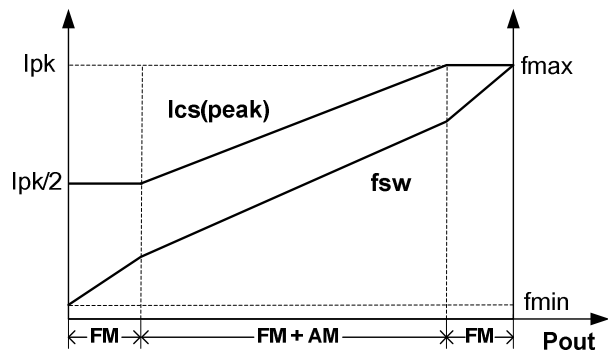

Fig.4
To meet the tight requirement of averaged system efficiency and no load power consumption, a hybrid of frequency modulation (FM) and amplitude modulation (AM) is adopted in JW1502 which is shown in the Fig 4.